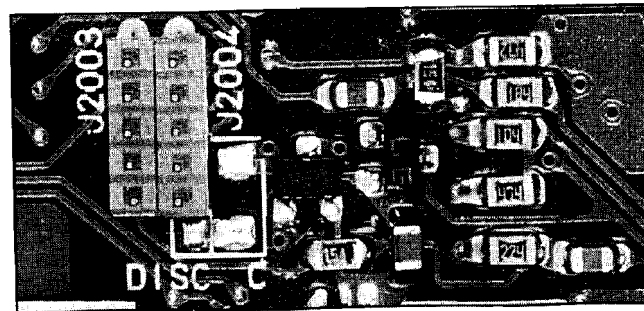

Fig. 2 RX Audio Component Location
- ☐ Referring to Figure 2, note the accessory mounting locations. If installing the FTS-17A, remove the paper from the double-sided adhesive pad.
- ☐ Locate the unused pad beneath connector J2004, labeled **C** (Fig. 2). Install a 0- Ω chip resistor* across at this location, and a wire to the pad just to the left labeled **DISC**. This makes the connection for de-emphasized discriminator audio output for decoding.